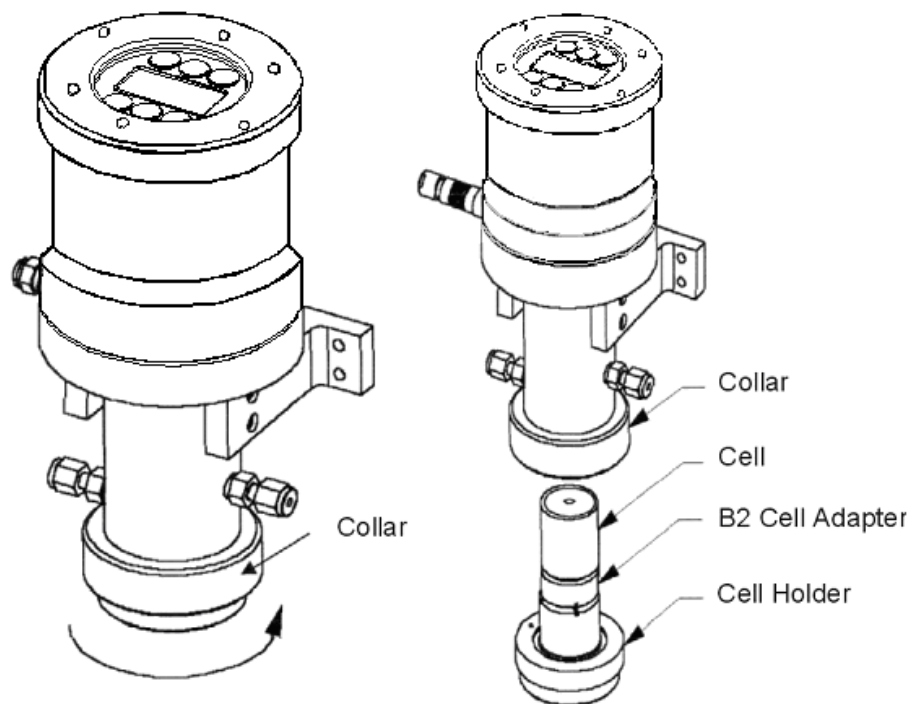

Figure 5-1: Cell Removal
Remove the Cell Holder by holding the bottom in place and unscrewing the Collar until the Cell Holder falls out with the Cell. Remove the new cell from its package, and carefully remove the shorting clip. Place the cell on the cell holder with the screen side facing down and tighten the cell holder onto the instrument. See Figure 5-1.
- Remove the B2 cell adapter if installed. Ref. Figure 5-1.